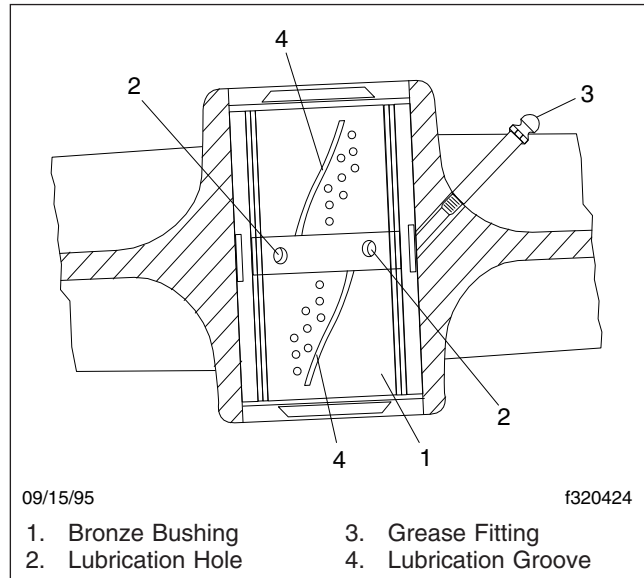

Fig. 9, Hendrickson RT2 and RTE2 Series Bushing Lubrication
3. Use a multipurpose chassis grease and lubricate the bronze, ball-indented bushings in the spring eyes at the grease fitting; see **Fig. 9**. Continue to lubricate until grease exits both ends of the bushing. If the pin will not accept lubricant, remove the pin and clean the lubrication channels where lubricant may have hardened. Lower the vehicle and remove the safety stands.